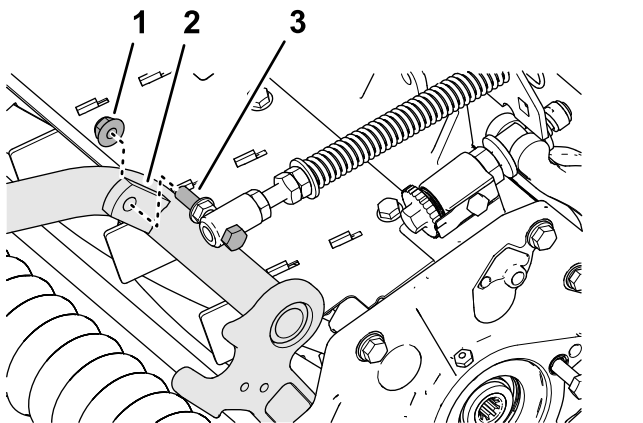

**Figure 9**
3. Remove the flange locknut (3/8 inch) that secures the capscrew of the turf compensation spring to the right tab of the carrier frame, and remove the compensation spring from the cutting unit (Figure 9).